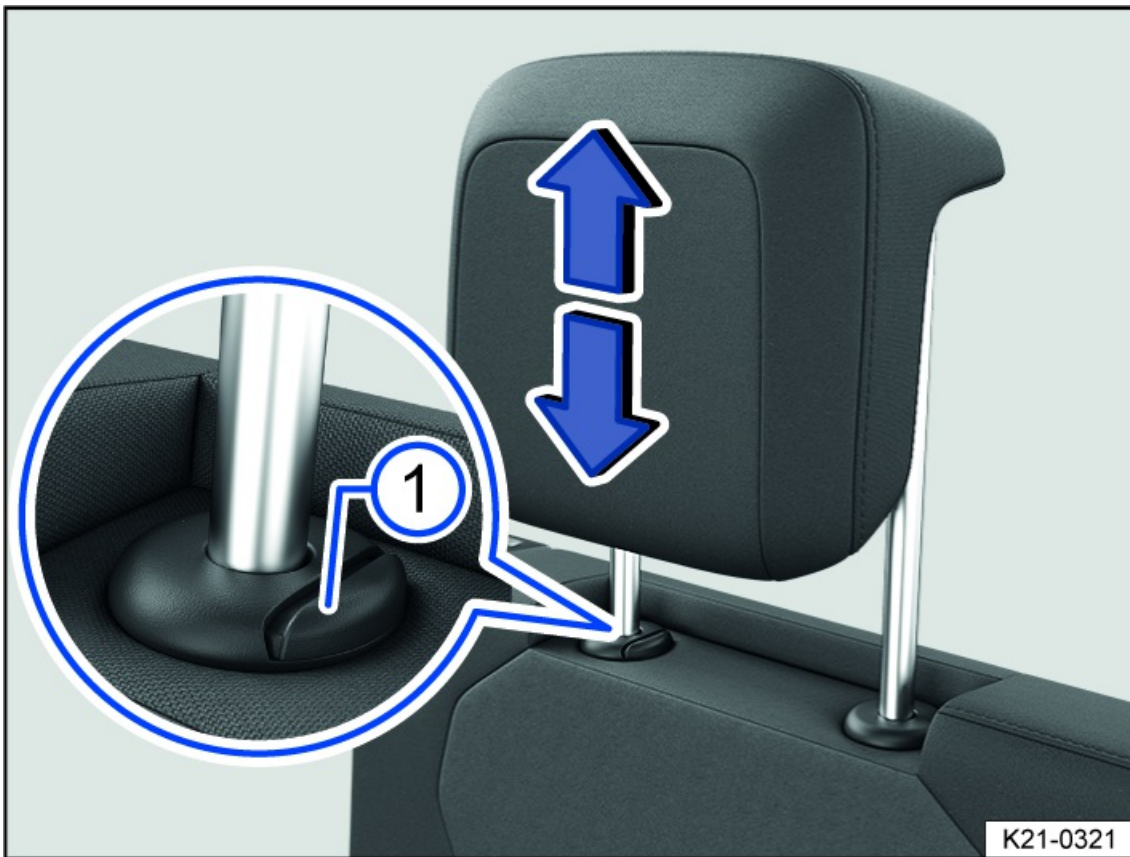

Fig. 70 Removing the head restraint on the third-row seats (general example).
3. Pull the head restraint all the way out while pressing the *fig. 70* button.
3. Push the head restraint downward while pressing the *fig. 70* button.